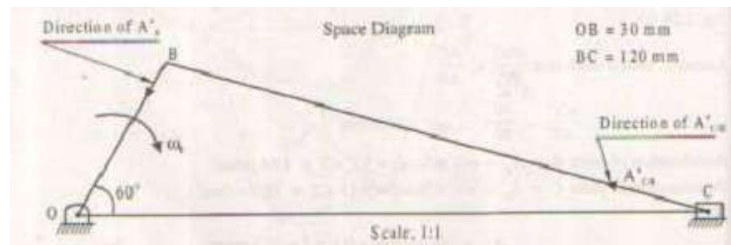

Fig. 2.5
5. In a slider crank mechanism, the crank $OB = 30\text{mm}$ and the connecting rod $BC = 120\text{mm}$. the crank rotates at uniform speed of 300rpm clockwise. Find the crank position shown in the figure in which the crank is turned 60° , find a) velocity of piston C and angular velocity of connecting rod BC b) acceleration of piston C and angular acceleration of connecting rod BC as shown in fig 2.5